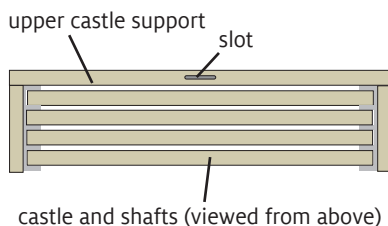

FIGURE 11: TREADLE TRACKER
22. With the clip on the treadle tracker facing the front of the loom, insert the treadle tracker into the slot in the top of the upper castle support (Figure 11).